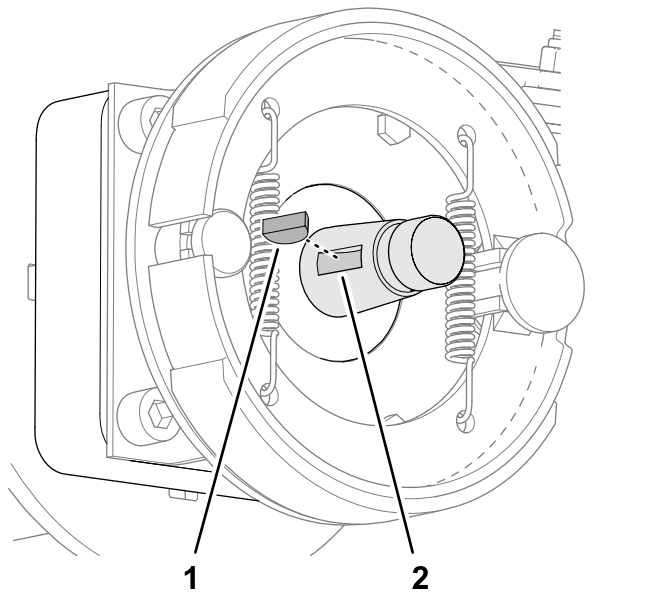

**Figure 62**
1. Remove the locknut that secures the hub to the wheel-motor shaft (Figure 61 or Figure 62).
4. Use the specified wheel hub puller to remove wheel hub and brake drum from the wheel-motor shaft (Figure 61 or Figure 62).